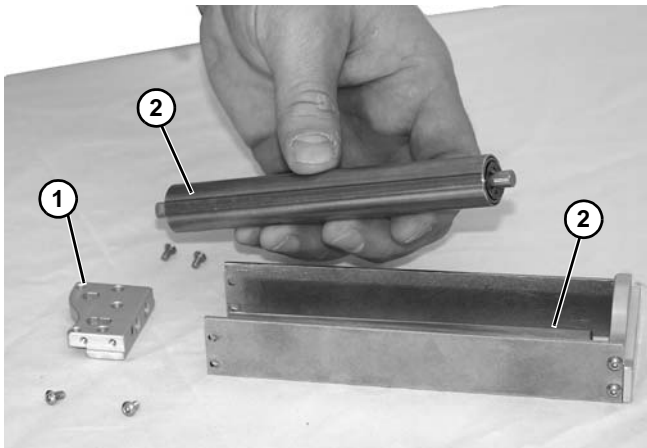

Figure 41
6. Remove roller mounting block (Figure 41, item 1).
7. Remove each pinch roller (Figure 41, item 2).
2. Install pinch roller onto roller mounting block, mating squared roller end (Figure 41, item 1) with slotted area (Figure 41, item 2) on mounting block end.